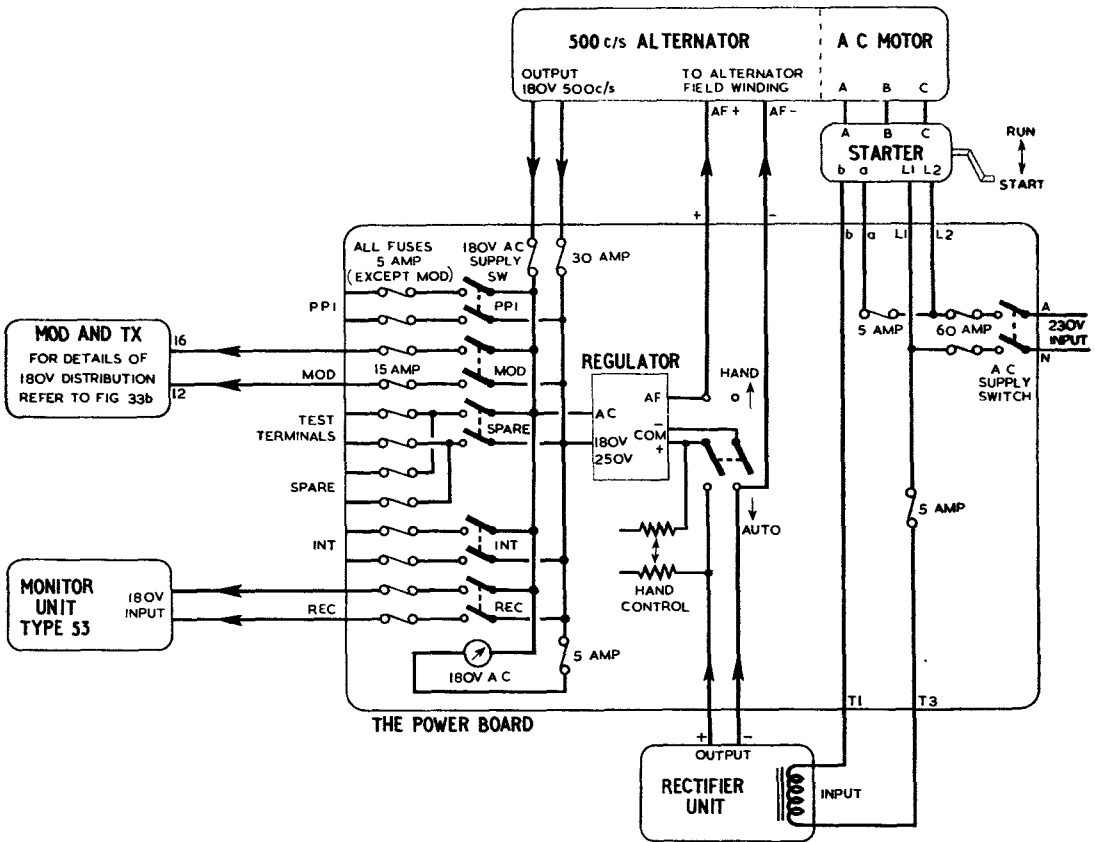

Fig. 32. 180V 500c/s power supply : wiring of power board
96. The internal wiring of the power board is shown in fig. 32 ; fig. 33 shows the distribution to the TR.3561.